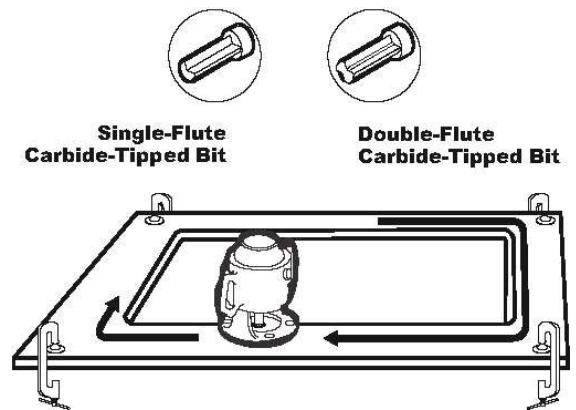

Figure C-3
- Make the cutout using a 2-hp to 3-hp router with a 1" (25 mm) template guide and a  $\frac{3}{8}$ " (10 mm) carbide-tipped, single-flute router bit (Figure C-3).